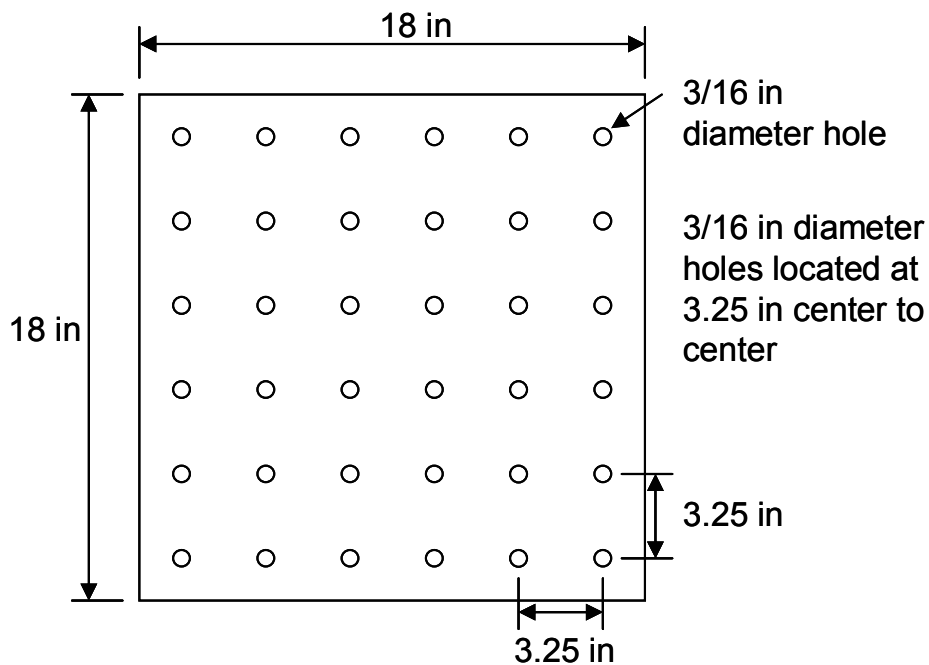

Figure 6.1 Earthquake Shake Table
- R. The hardboard base plate will need holes of 3/16 in diameter, at 3.25 in on center, at the locations shown on the attached shake table diagram (figure 6.1). Teams will need to ensure access to a minimum of 12 holes, distributed throughout the base plate, to allow attachment of the base to the shake table using 3/16 in diameter allen cap screws. It is strongly recommended to drill all 36 holes on the base plate (figure 6.1) prior to structure attachment.
The unidirectional earthquake shake table to be used for testing has the dimensions and bolt hole pattern as shown in figure 6.1. Structures will be loaded with the weight distribution as shown in figure 6.2.